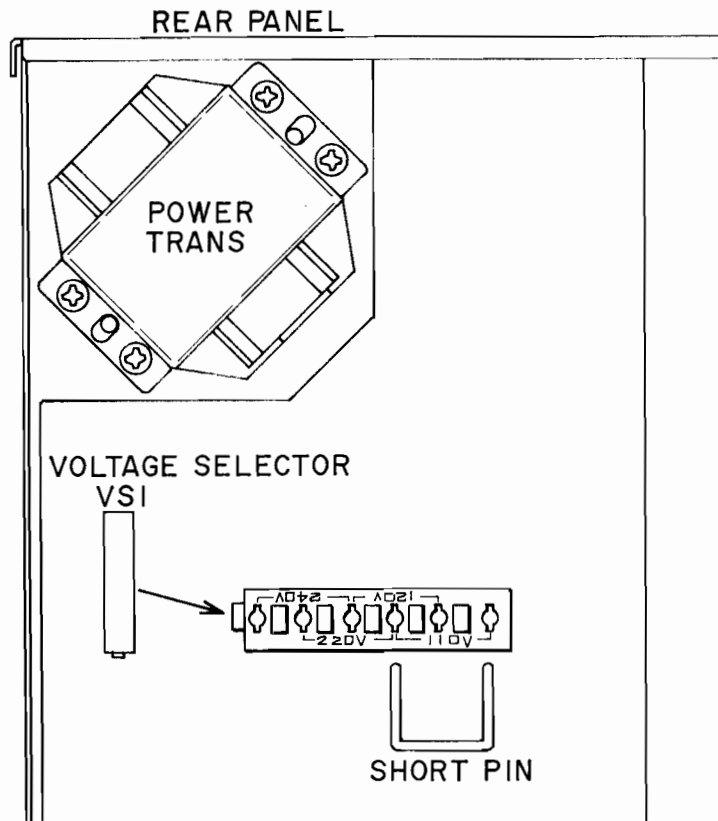

Fig. 4 Voltage Conversion (U Model)
4. POTENTIOMETER PRESET VOLTAGE ADJUSTMENT (Refer to Fig. 4)